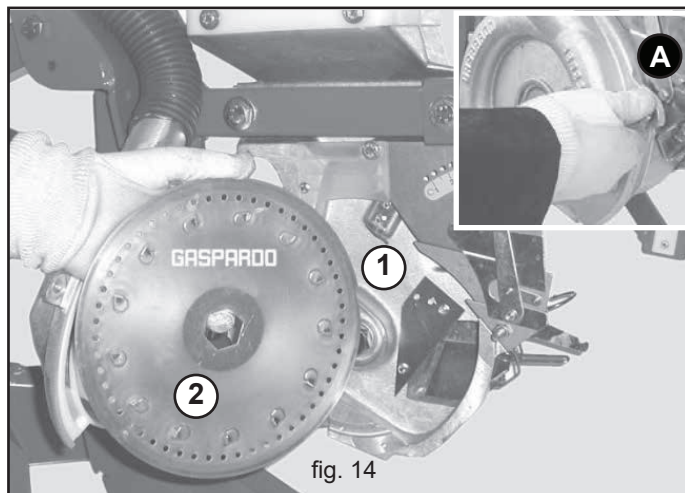

fig. 14
A disk (2, fig. 14), chosen according to the size of the seed, is assembled inside the distributors (1, fig. 14) (the seed should not enter the hole). Should suction cause some seeds to clog the holes of the disk, these will be left on the ground. The seeder is delivered to the customer with a single set of discs is equipment. The Manufacturer can supply the client with the following sets of disks (pag. 61).
- The disk must be assembled with the pegs (2, Fig. 14) pointing towards the inside of the distributor.
- Hand-tighten only the winged nut that closes the cover (A, fig. 14).
- 4) Unscrew and remove the winged nut (A, Fig. 14);